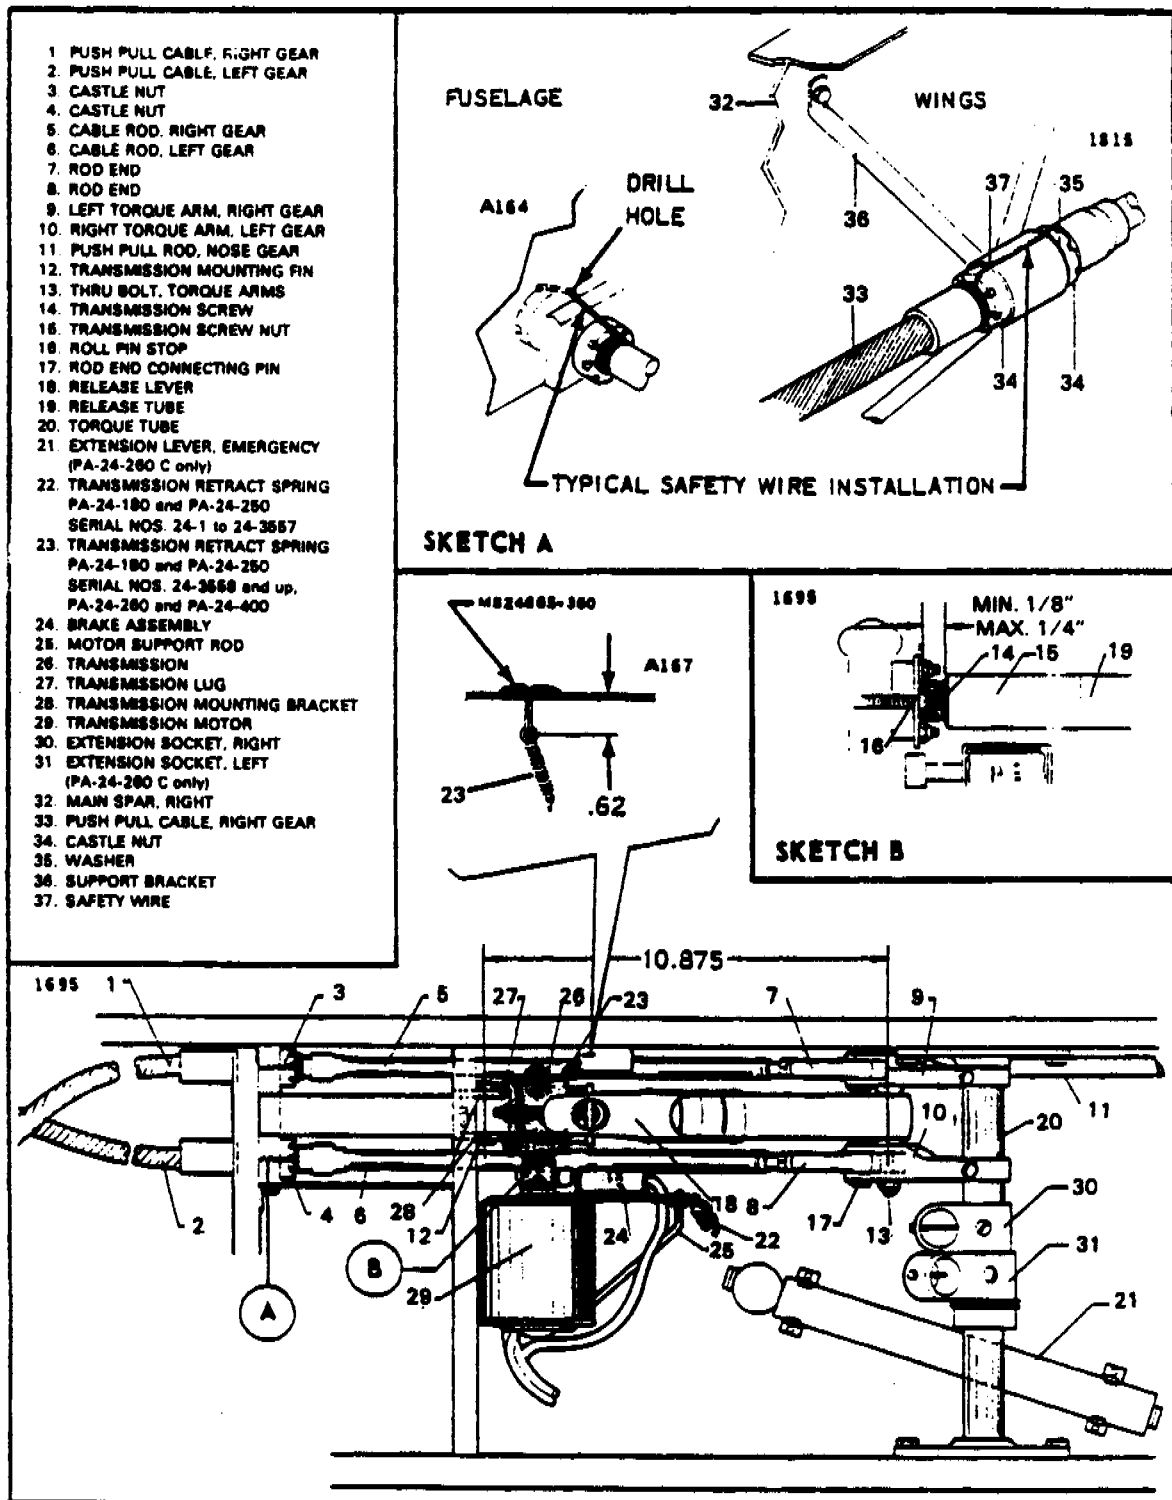

FIGURE 6-14. LANDING GEAR RETRACTION SYSTEM INSTALLATION
6-46. Removal Of Nose Gear Push-Pull Control Rod. (Refer to Figure 6-14.)
6-47. Removal Of Main Landing Gear Push-Pull Control Cables. (Refer to Figure 6-14.)
6-50. Installation Of Main Landing Gear Push-Pull Control Cable. (Refer to Figure 6-14.) Install the main landing gear push-pull control cables using the following procedure:
6-54. Adjustment Of Gear Retraction Transmission Assembly. (Refer to Figure 6-14.) Adjust the retraction transmission by using the following procedure:
- c. Turn the transmission release tube (19) on actuator screw to maintain a distance of 10.875 inches between the center of the transmission mounting pin (12) and center of the thru bolt (13) connecting the lower portion of the torque arms. This adjustment should allow approximately a (minimum of 0.125 inch) measured along the actuator screw (14) between the roll pin stop (16) and the screw nut (15).
- e. Adjust the push-pull rod ends (7 and 8) to allow their connecting pins (17) to push freely through the torque arm clevises (9 and 10) and rod end bearings.
- g. Safety wire all castle nuts as shown in Figure 6-14, Sketch A. Aircraft which have lock washers should be safety wired in accordance with Figure 6-14, Sketch A.